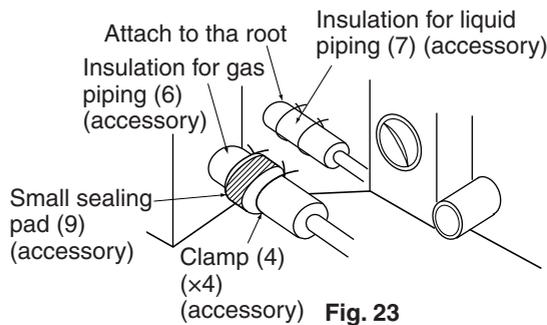

Fig. 23
- Make absolutely sure to execute heat insulation works on the pipe-connecting section after checking gas leakage by thoroughly studying the following figure and using the attached insulation for fitting (6) and (7). (Fasten both ends with the clamps (4).) (Refer to Fig. 23)
- Wrap the sealing pad (9) only around the insulation for the joints on the gas piping side.